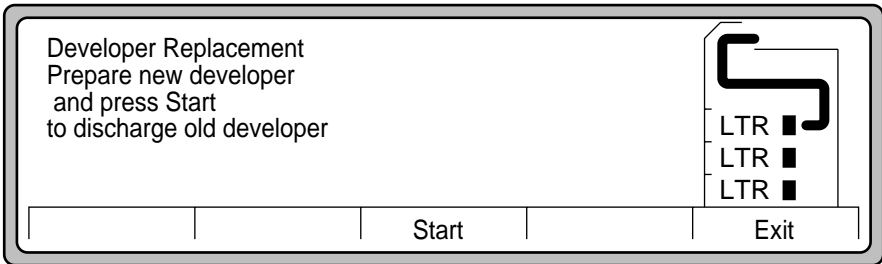

Figure A-5 Start Discharge Developer
5. Press the **Start** button as shown in Figure A-5.